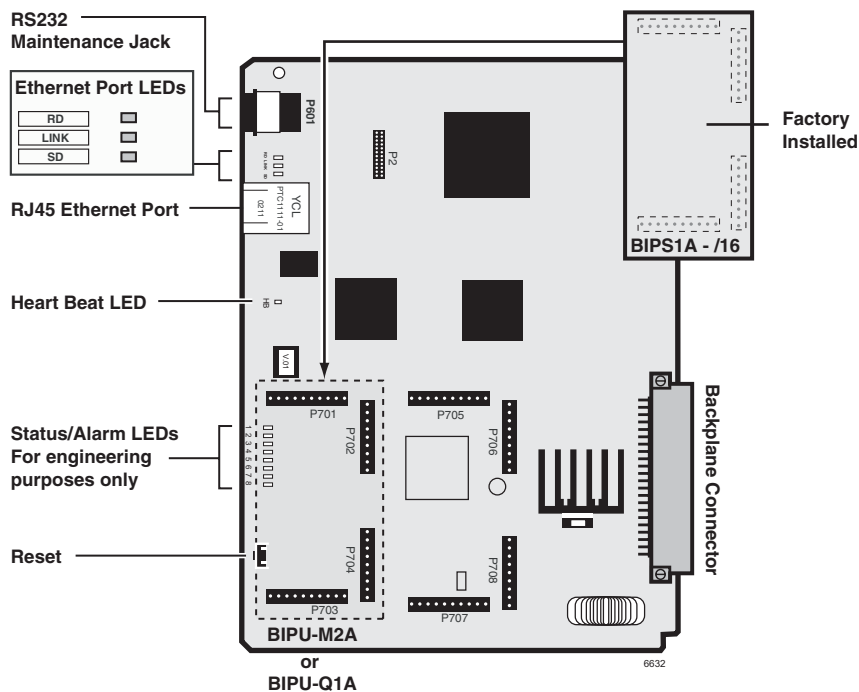

Figure 9-2 BIPU-M2A or BIPU-Q1A PCB ZZ
1. Make sure the BIPS1A is installed onto the BIPU-M2A PCB (see Figure 9-2).
1. Plug one end of a straight-through CAT5/5E/6 LAN cable into the RJ45 Ethernet port on the BIPU-M2A PCB in the CTX. (See Figure 9-2.)